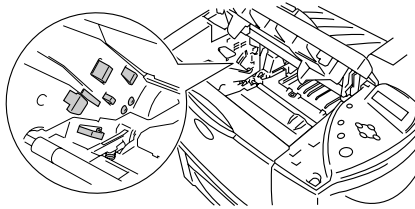

Figure 5-11
- To prevent damage to the printer from static electricity, do not touch the electrodes shown in Figure 5-11.